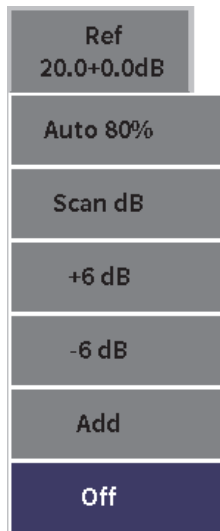

Figure 6-2 Scanning gain buttons
6. Press the Enter key to display the scanning gain buttons (see Figure 6-2 on page 82).